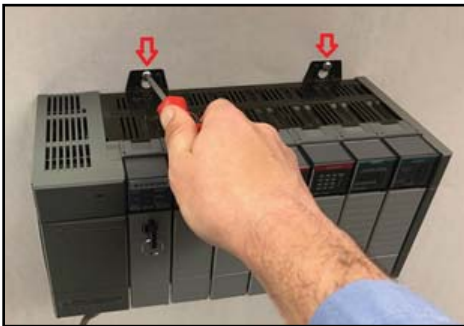

Figure 3a
- a) Refer to Figure 3a. Loosen (do not remove) the upper mounting hardware which attaches the 1746 I/O Chassis to the control cabinet enough to remove the chassis. This mounting hardware will be used to mount the conversion system lower mounting plate in Section 4.